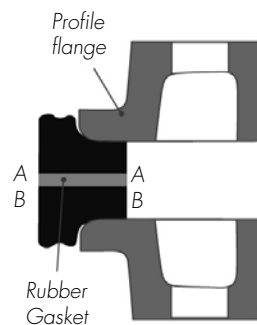

Figure 1: HDPE Stub-end
- I. The sealing faces of the two stub-ends in a joint should be parallel to each other all around the circumference and in full contact (see lines A-A, B-B in Fig. 1).
1. Install all the bolts and nuts finger-tight, ensuring at all times that the alignment conforms to figures 1, 2, and 3.